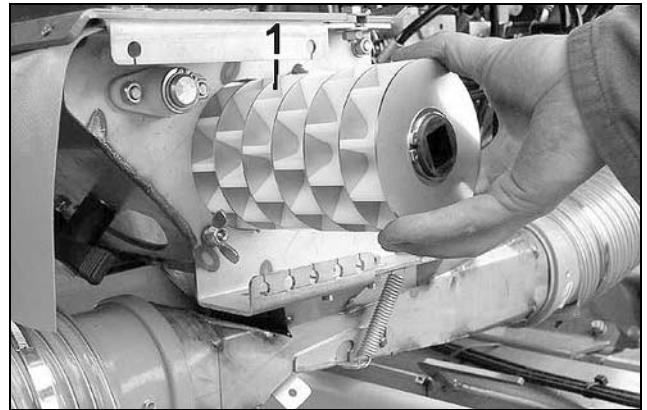

Fig. 17
- Coarse metering roller (Fig. 17/1) for coarse seeds and big seed rates